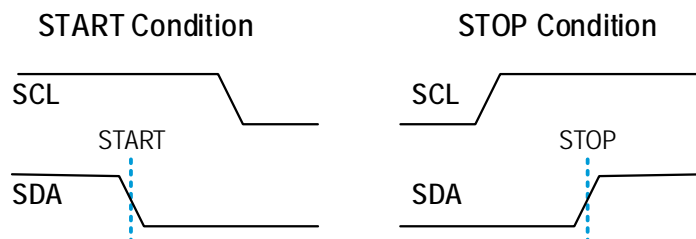

Figure 14. START and STOP Condition Waveform
The sensor transmission is initiated when the master sends a 0 START bit (S). The transmission is terminated when the master sends a 1 STOP bit (P). These bits are only transmitted while the SCL line is HIGH (see Figure 14 for waveforms).